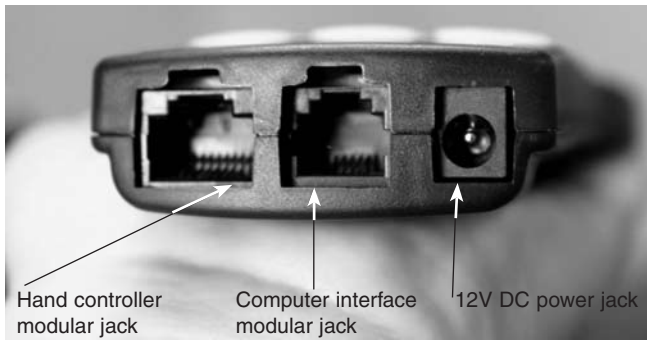

Figure 14. GoTo hand controller jacks
3. Connect the other end of the coiled cable to the hand controller modular jack (Figure 14).
The 12V DC power jack on the hand controller allows independent use of the GoTo hand controller for users who wish to browse the object database without connecting to the telescope mount (Figure 14). The power jack is also used when updating the firmware in the hand controller (see "Updating the GoTo Hand Controller's Firmware").